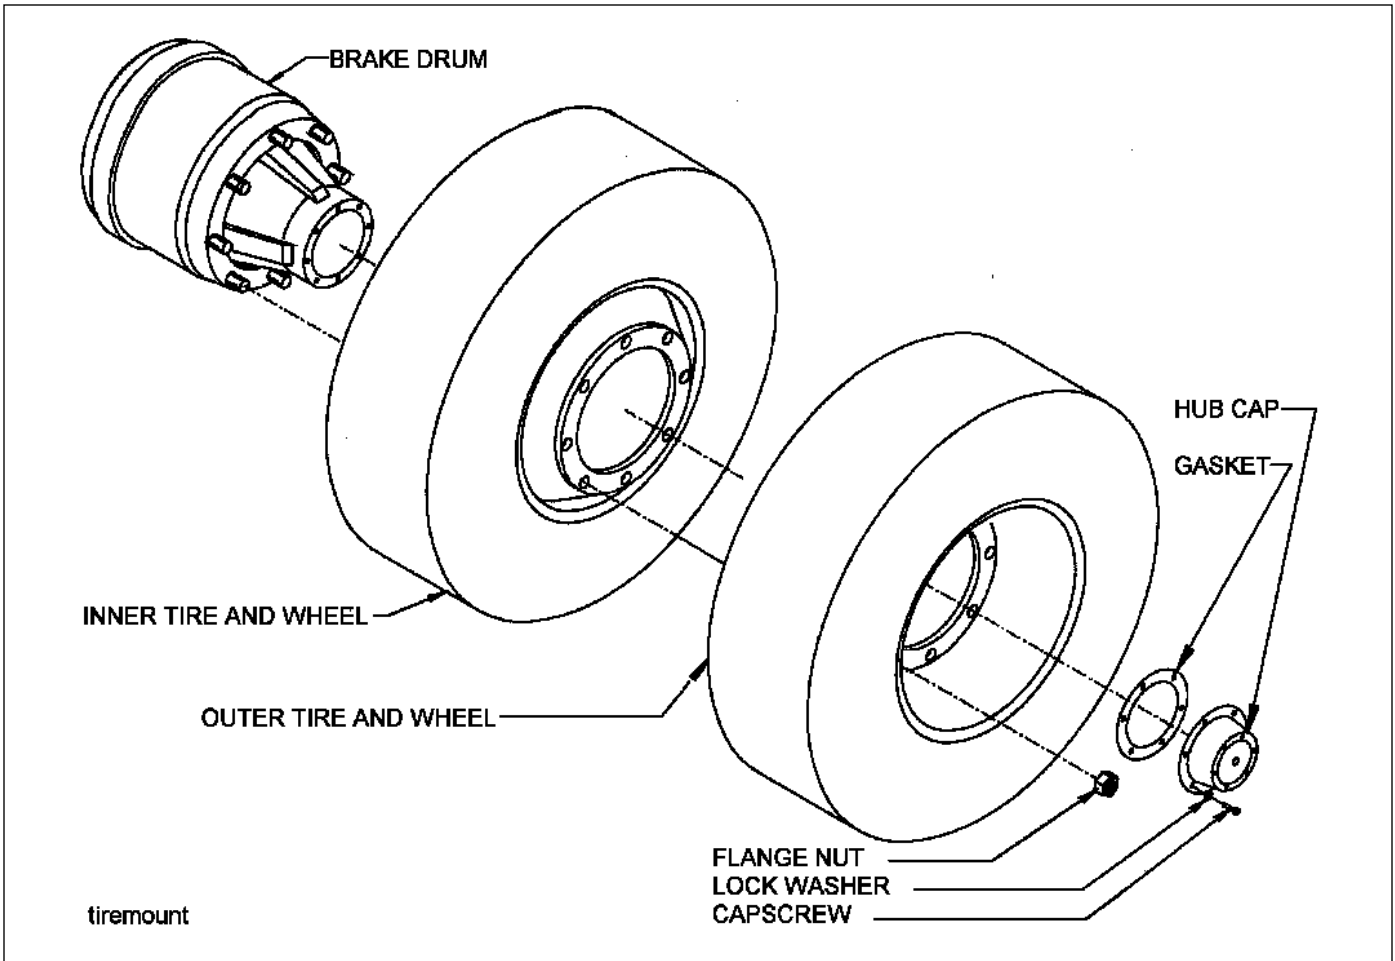

Figure 4-16: Mounting Tires and Wheels
6. For aluminum wheels, often a separator plate is used **(See Figure 4-16.)** The separator plate is approximately .040" thick. It is placed between the drum and the wheel, or between two wheels in dual applications. The separator plate is recommended in severe applications where corrosion and/or wear have been identified. Aluminum wheels benefit from use of the separator plate. Care must be exercised in centering the separator plate prior to torquing, and stud length must be checked as each plate is approximately .040" thick.
1. Make sure that all mounting surfaces are clean and free of rust, dirt or paint. A wire brush may be used to clean these surfaces **(See Figure 4-16.)**
Improper tightening sequence	Follow proper tightening sequence (See Figure 4-16. )